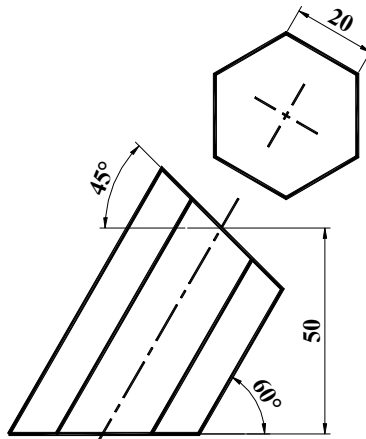

Figure T9.2
2. Two views of right regular hexagonal prism cut at both end by section planes and resting on its lower cut end on ground are shown in Figure T9.2. Develop its lateral surface.